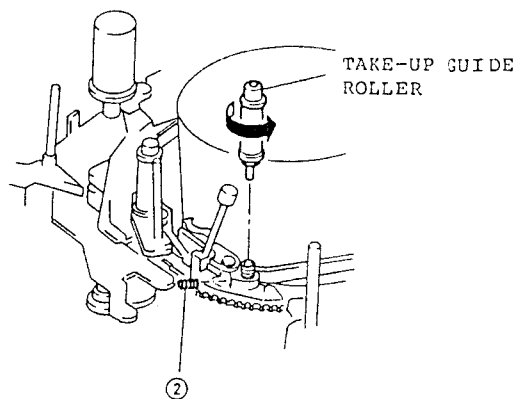

Fig. 2-70
2. Remove the hexagonal screw (0.7 mm) holding the take-up guide roller. (See Fig. 2-70)